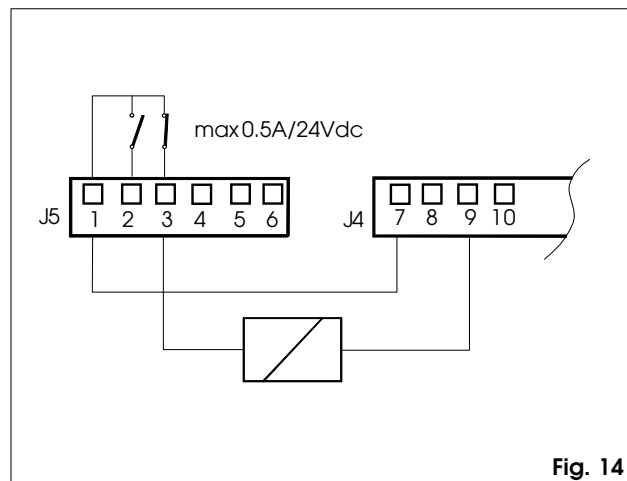

Fig. 14
- 3 Electric lock - N.C. contact (max. capacity 0.5 A/24 V) (fig. 14).**